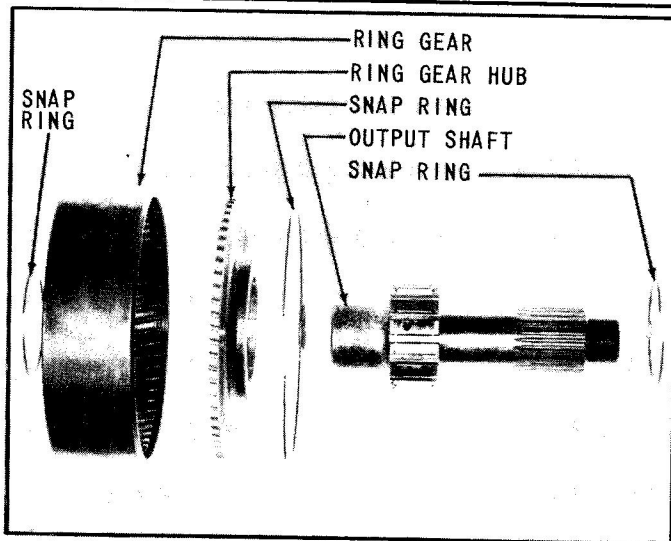

Fig. 31 Ring Gear and Output Shaft
1. Remove the two snap rings from output shaft and slide ring gear hub from shaft, Fig. 31.
2. Ring gear may be separated from ring gear hub after removing snap ring from ring gear, Fig. 31).